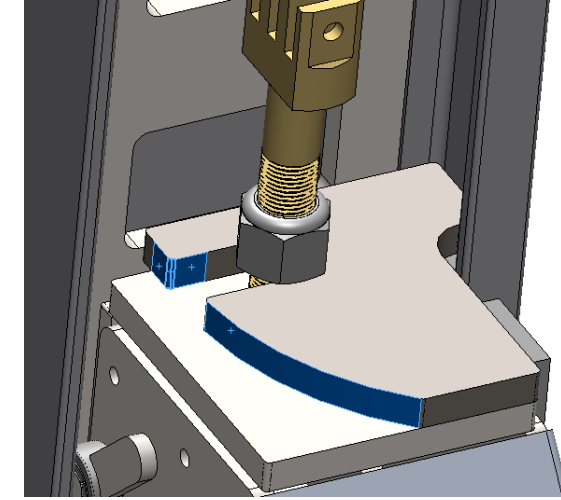

Figure 21
47. With the lift side stop plate in position, weld around the highlighted edges shown in *Figure 21*.